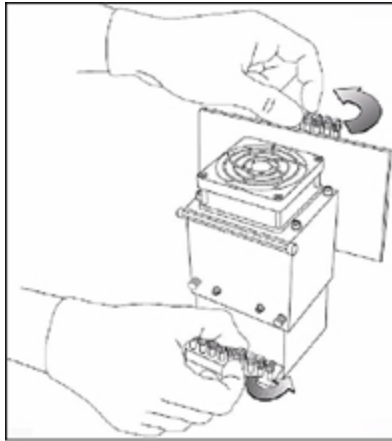

Figure 6-75 Releasing the locking screws
18. Tighten the upper and lower screws that secure the print head in the print block (see Figure 6-75 on page 6-58).